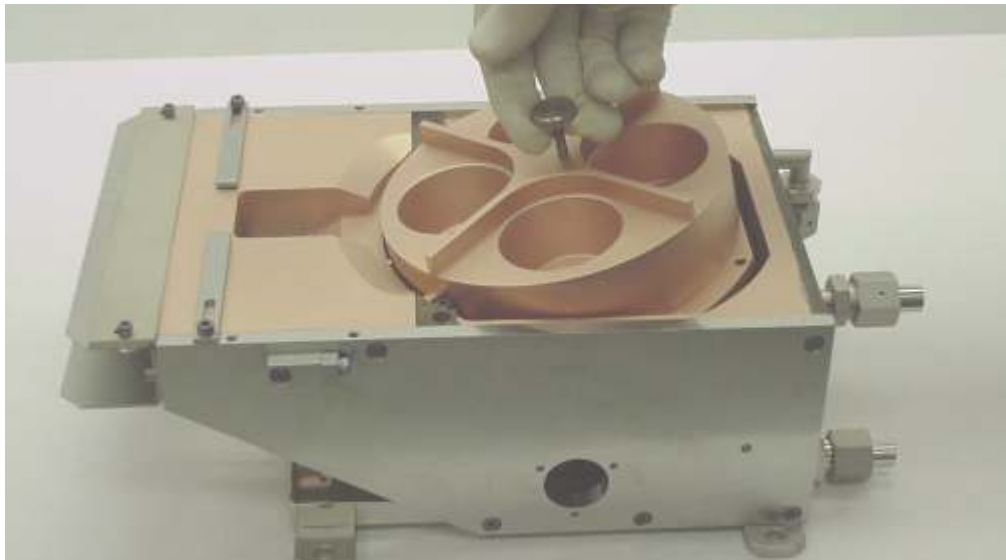

Figure 5-5. Removing the crucible from the source. Note angle of withdrawal
- (c) Pull the crucible clear of the coil housing by angling it upward and backward at the same time, as shown in Figure 5-5. At this point, be very careful not to scrape the crucible's O-ring-sealing surface on the water baffle.
- (b) Angle the crucible into the position shown in Figure 5-5. Next, lower its rear end so that its bottom surface is horizontal; then lower the crucible straight down onto the O-ring. As you perform this step, take great care to avoid scraping the underside of the crucible's O-ring-sealing surface against the water baffle.